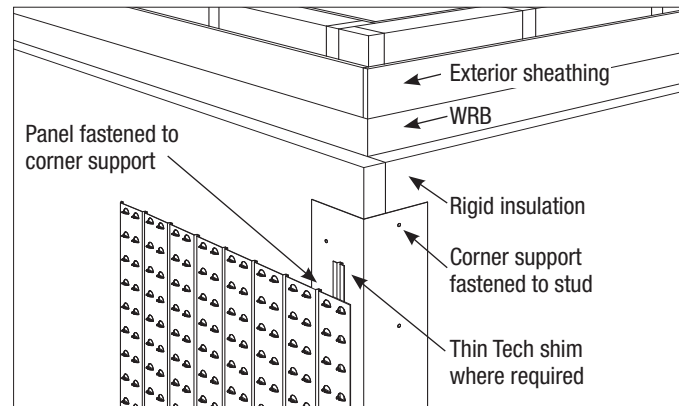

FIGURE 2 (ALSO SEE FIGURE 3 – PAGE 11)
Thin Tech Corner Supports increase the available area for attachment of Thin Tech panels and should be used to ensure secure attachment where the framing configuration or thickness of continuous insulation prevent alignment of vertical panel edges with studs at corners. Where needed, Thin Tech panels are installed on top of and fastened to corner supports, see Figures 2 and 3. (A shim must be installed to support vertical panel edges more than 2 in. from a channel.)
Thin Tech shims may be installed at outside corners to help square Elite panels at corners (see Figures 2 and 3).
- Align edge of Thin Tech shim behind cut edge of panel (with channel open to the exterior) and fasten to wall (see Figure 2). Fasten edge of panel to wall every 8 in. vertically through the channel of the shim.